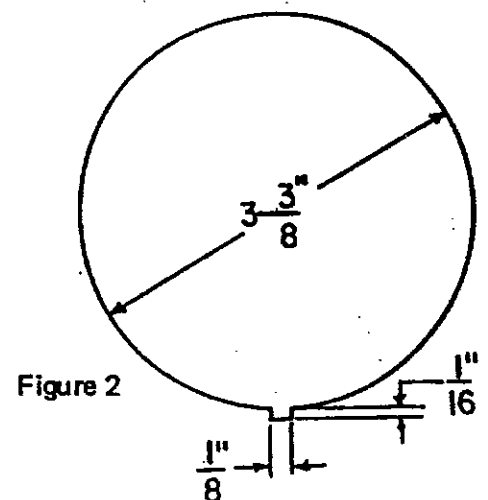

Figure 2
1. Cut a 3-3/8" diameter hole with a 1/8" wide X 1/16" deep notch pointing down or remove existing tachometer (Fig.2)